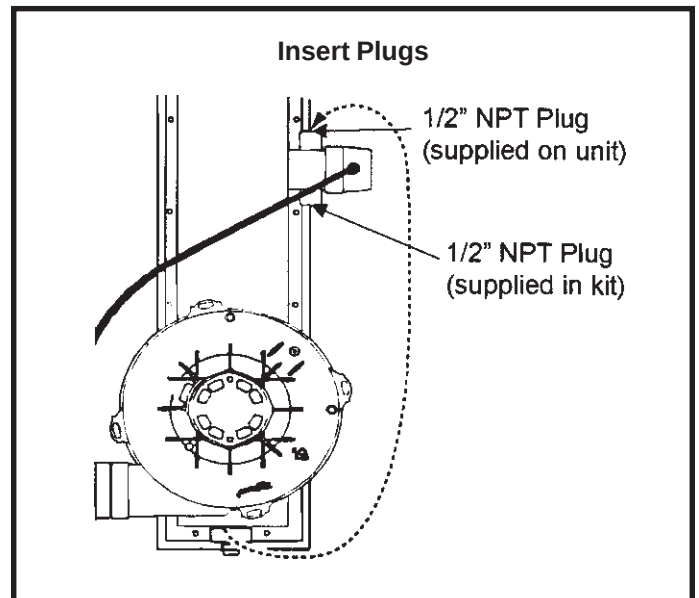

Figure 23
1. Relocate the 1/2" NPT plug installed on the flue pan to one side of the internal trap assembly (as shown in Figure 23).